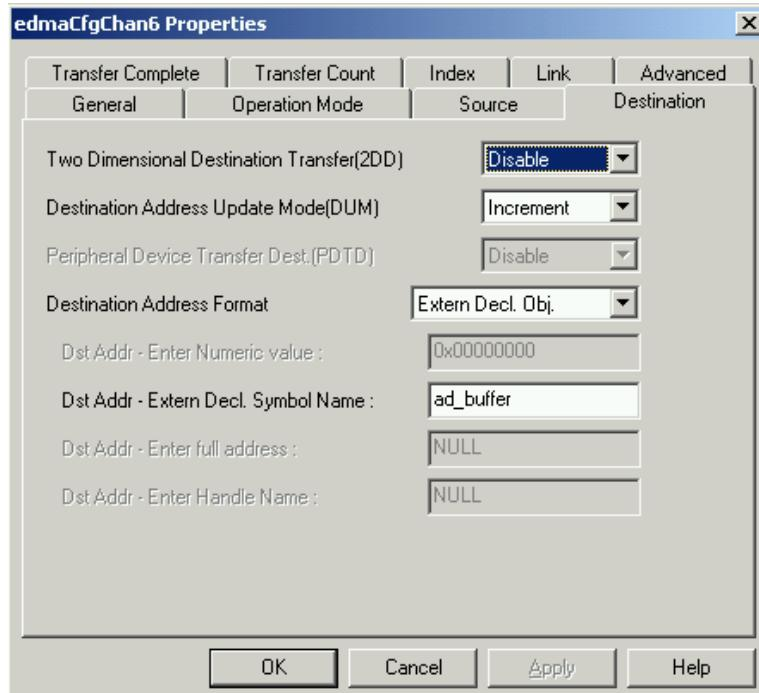

Figure 15. EDMA Chan6 Destination Tab Options
13. In the Destination tab, select the options shown in Figure 15. Disable the two dimensional Source transfer and select increment destination address. The data read from the converter is stored in an externally declared array called *ad_buffer*. This is a 32-bit read and the converter is mapped DSP LSB to A/D LSB, therefore the top 14-bits of the 32-bit word should be masked out.